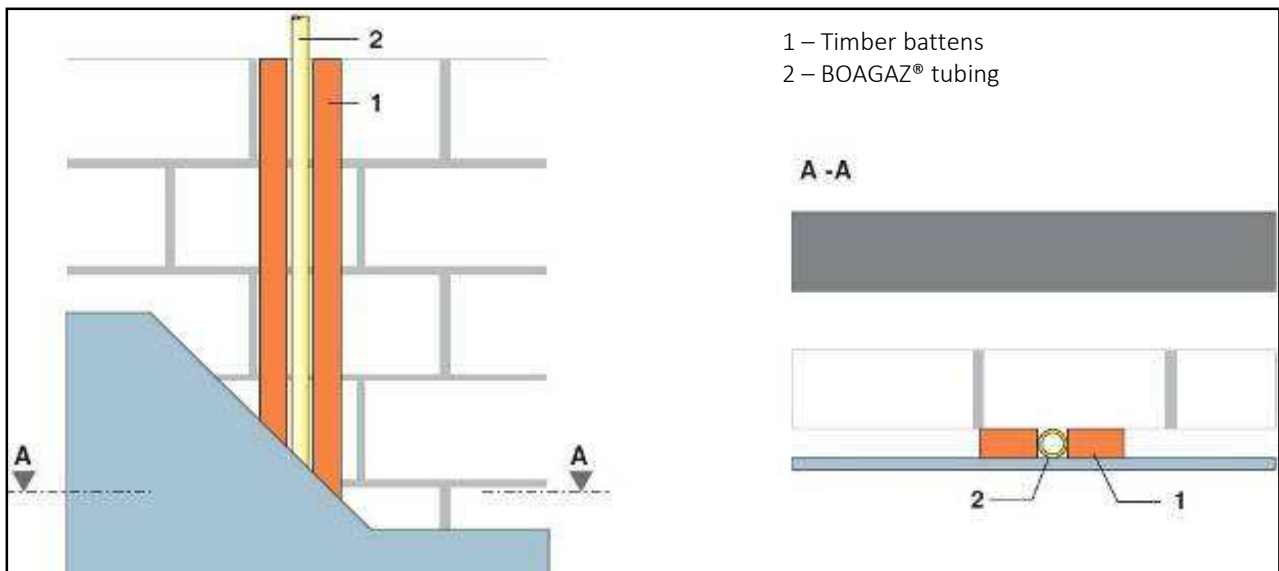

Figure 15: Brick and block dry lined on battens
- brick and block dry lined on battens (Figure 15)